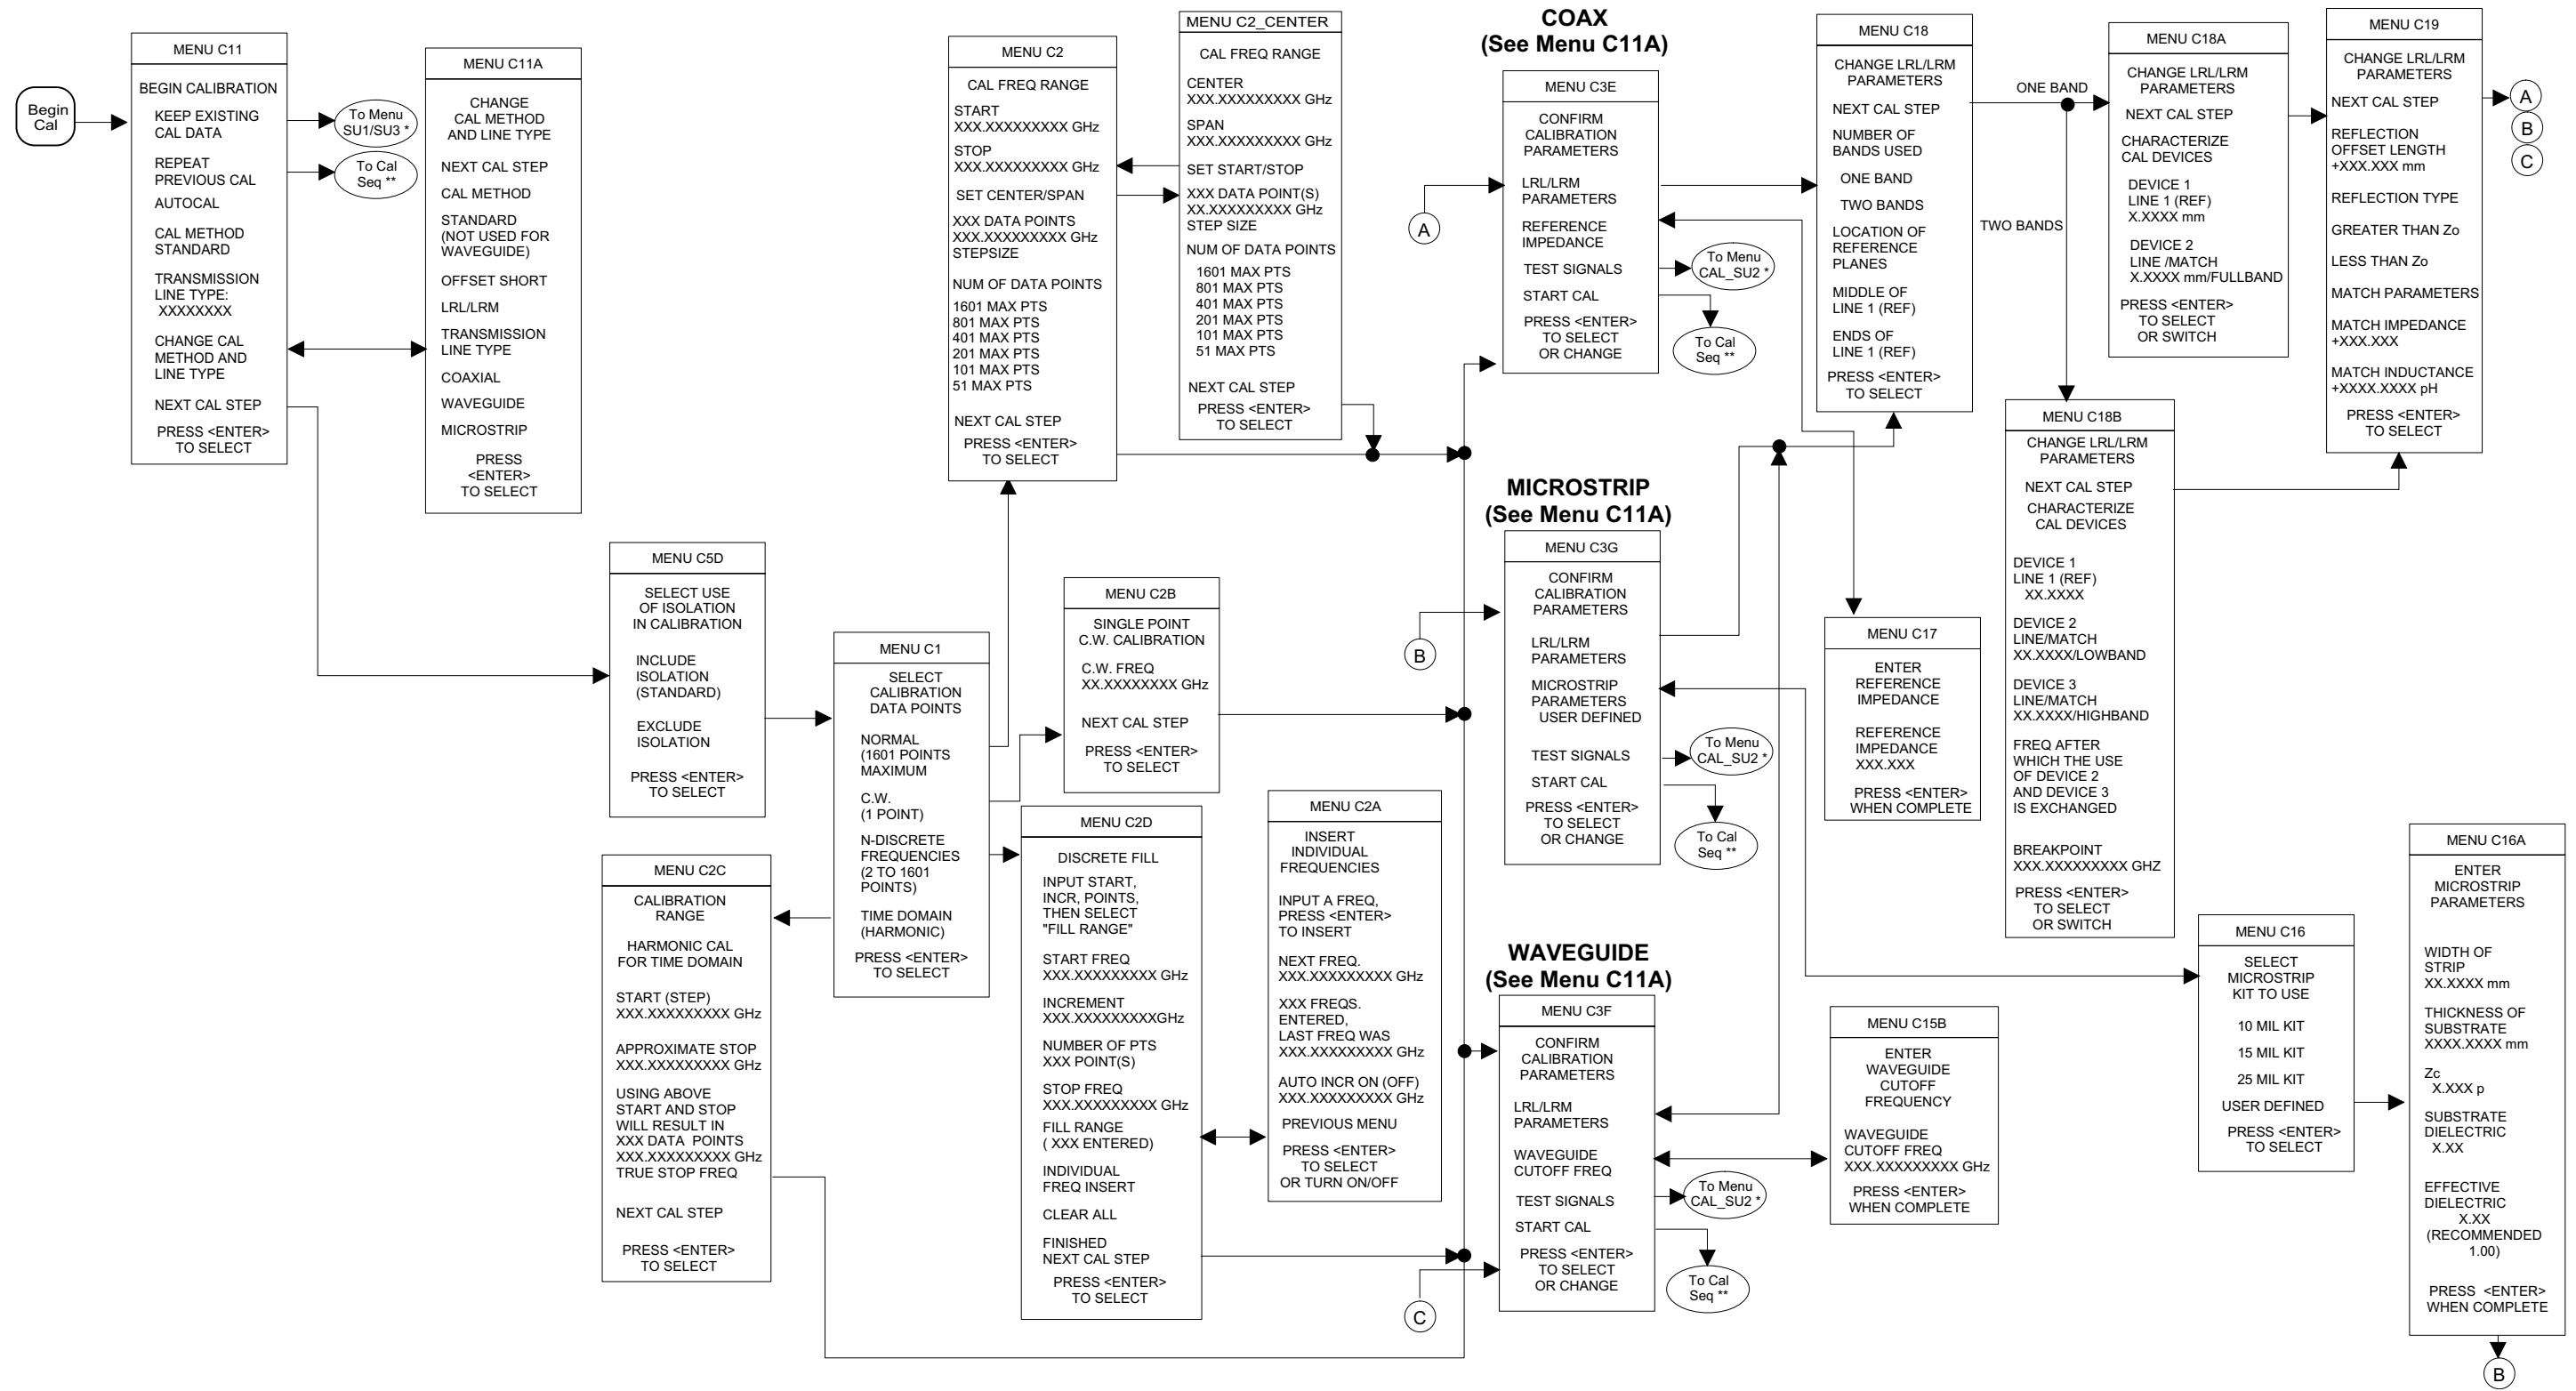

Figure 4-5. Menu Sequencing, LRL/LRM Calibration
** Cal Seq (Calibration Sequence) – See Figure 4-5